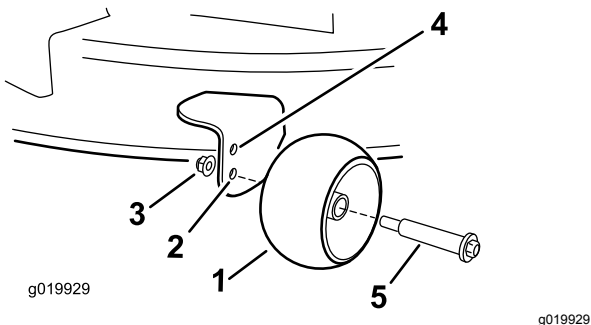

Figure 20
- Upper hole—use this position with the mower deck in the 63mm (2-1/2 inch) and below height-of-cut positions (Figure 20).
- Lower hole—use this position with the mower deck in the 76mm (3 inch) and above height-of-cut positions (Figure 20).